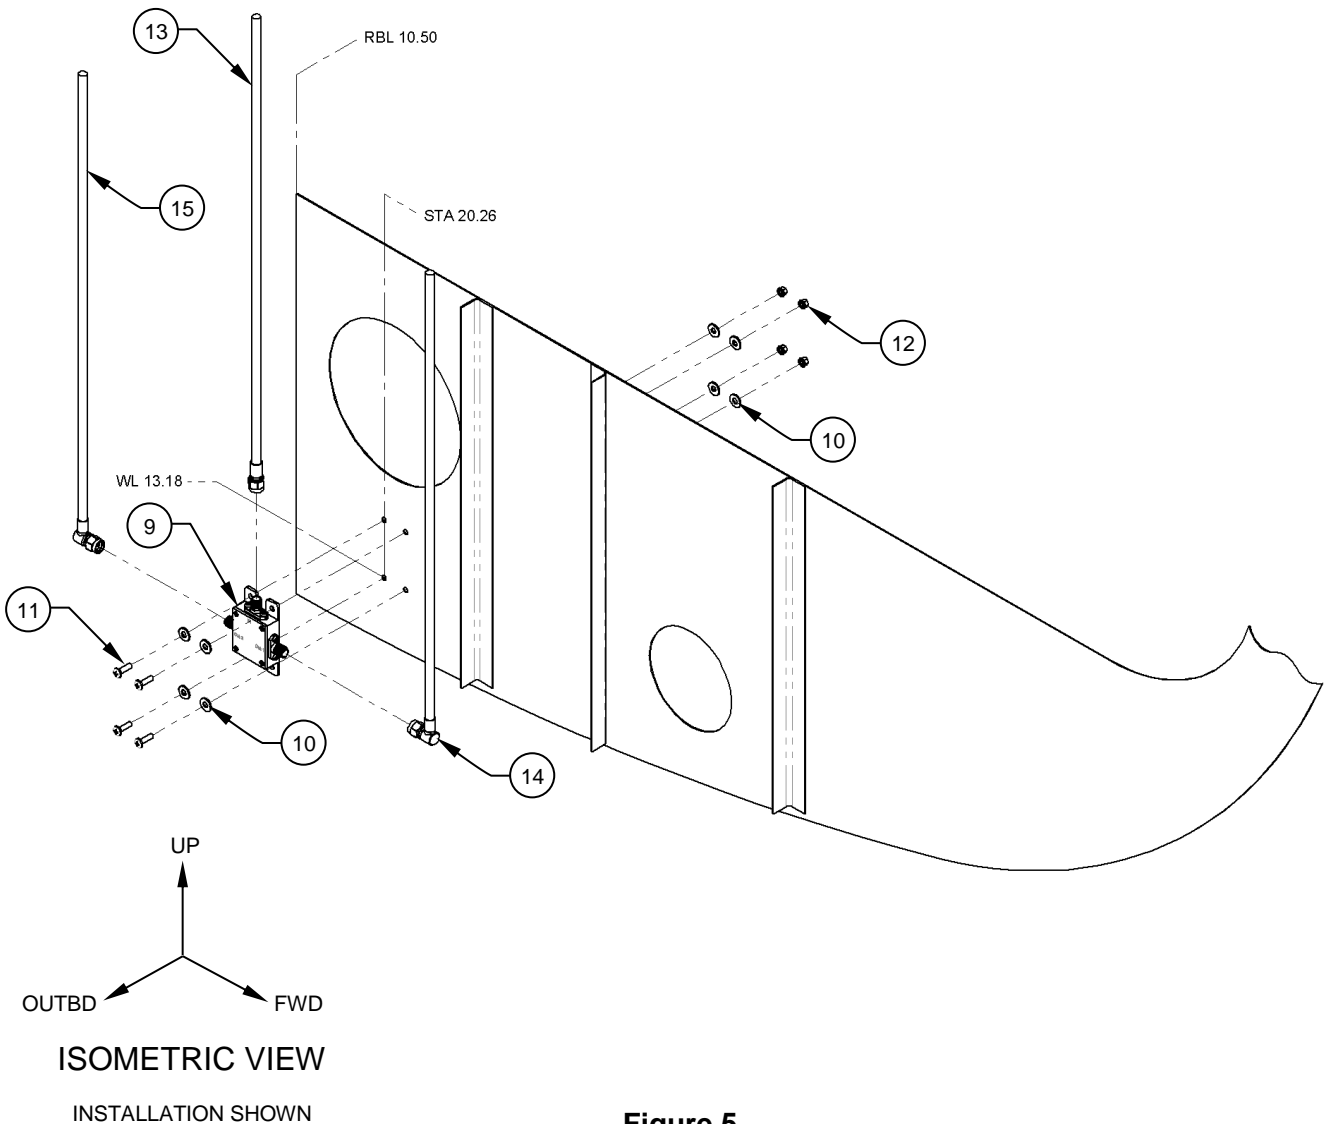
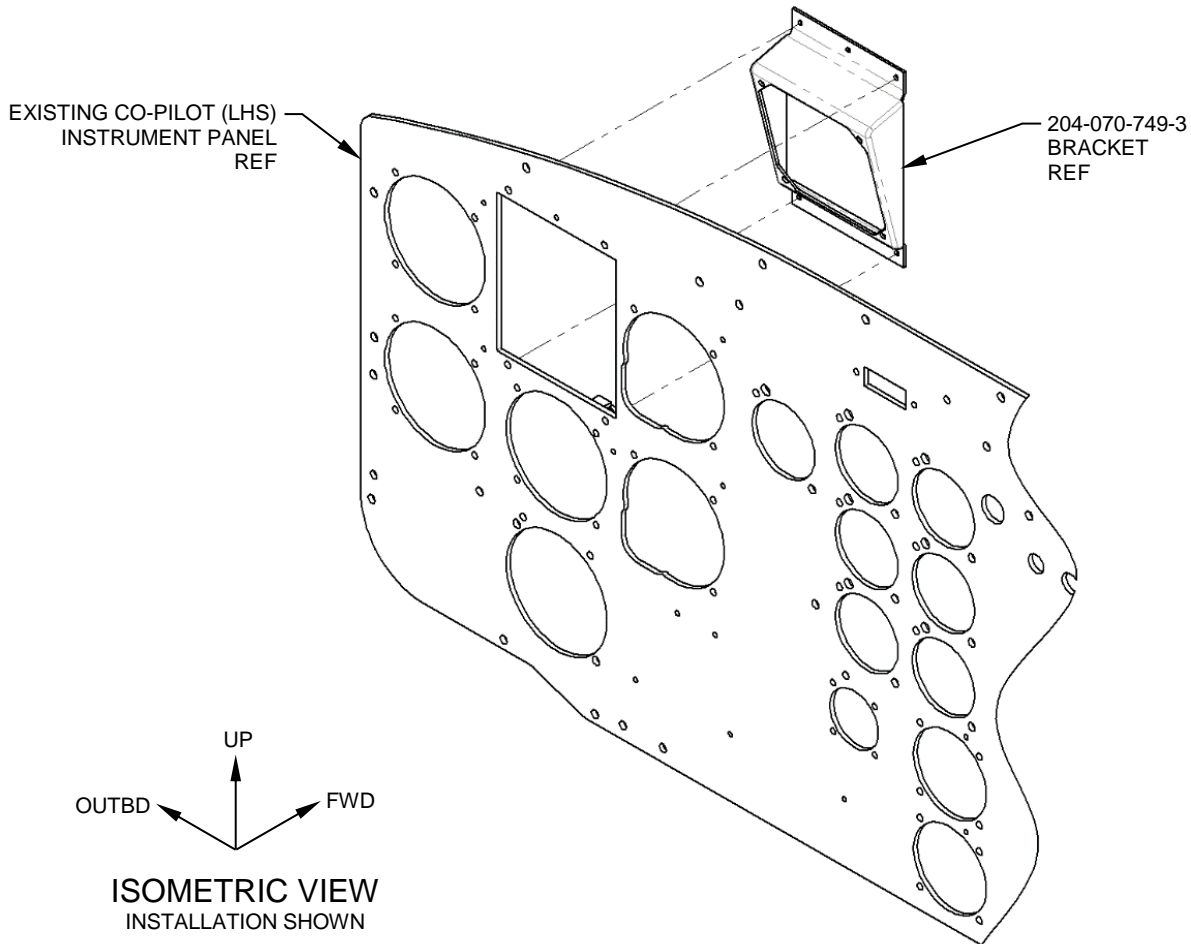
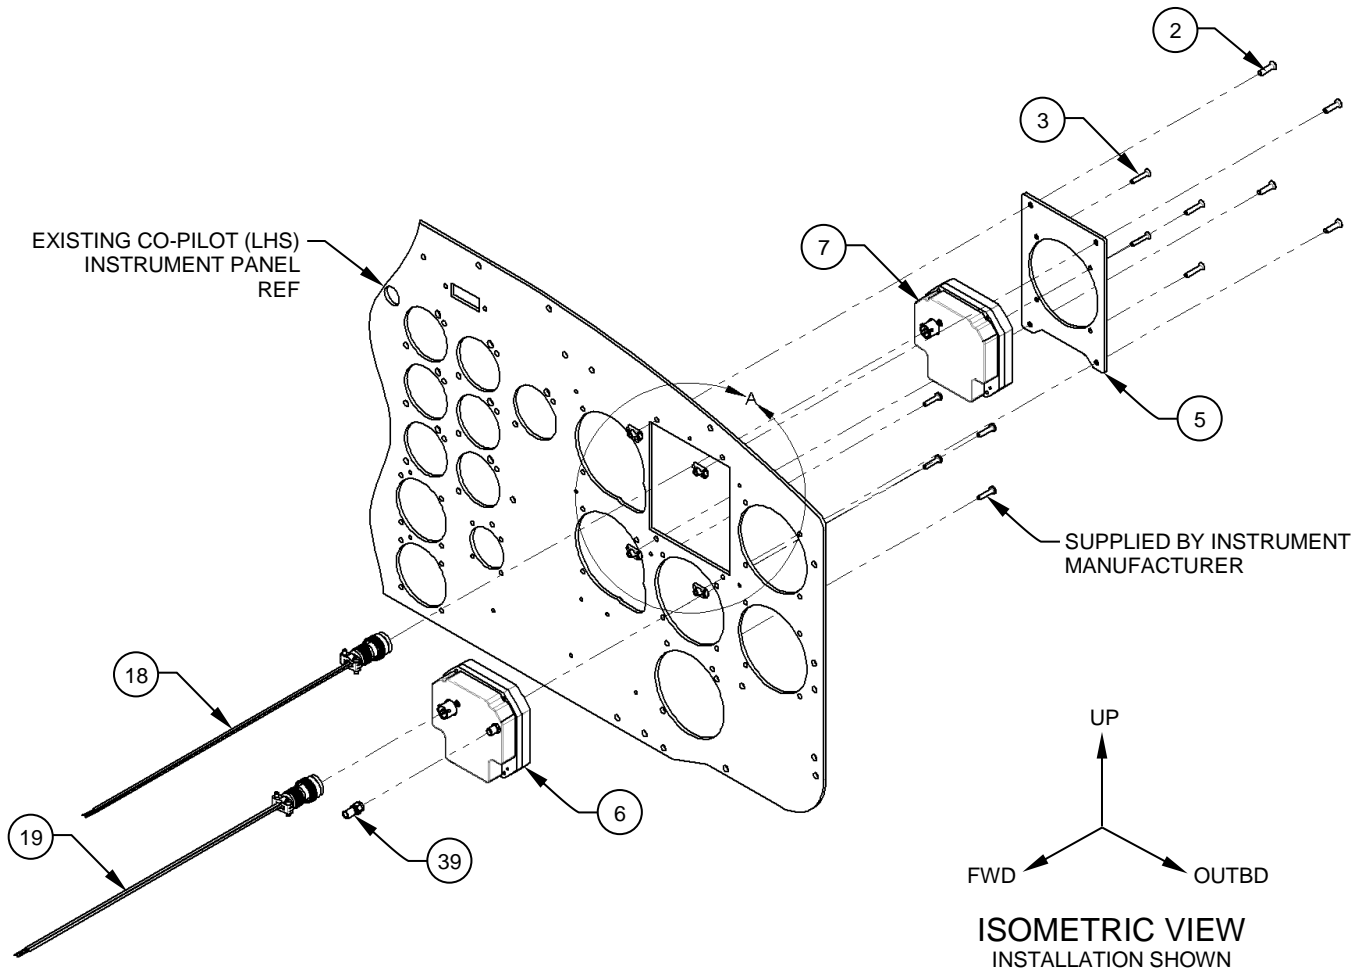
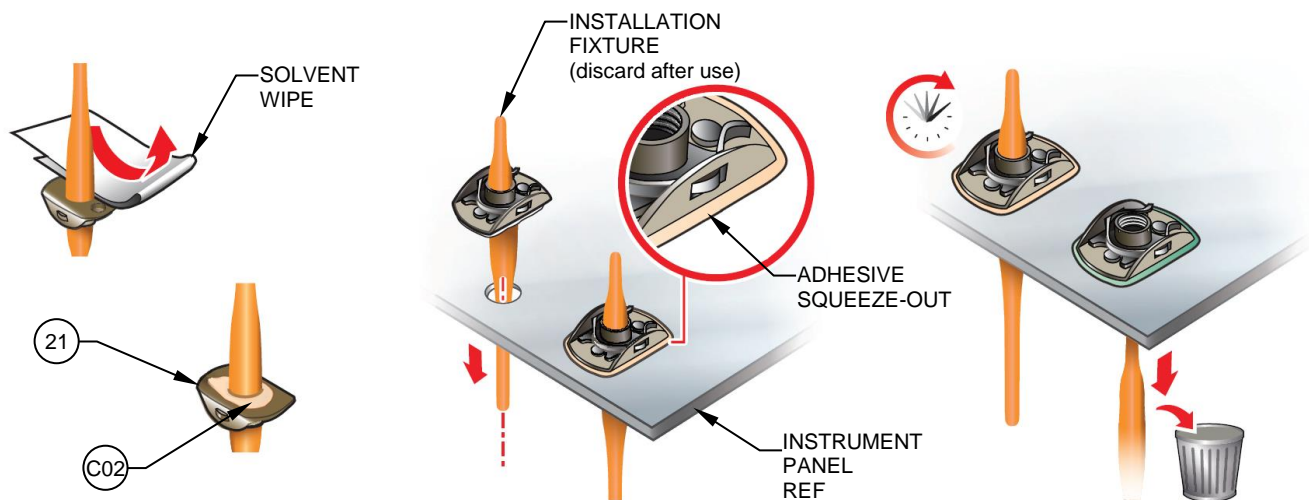

Figure 5
Figure 6
Figure 7
Figure A-1
- Install the Splitter, GPS (Item 9) with the supplied fasteners as shown. Reference Figure 5. The position shown is the preferred location however, deviation is permitted to accommodate individual aircraft configurations. Recalculate weight and balance accordingly.
10. If present, remove the 204-070-749-3 bracket and drill out the four holes in the instrument panel (shown) to $\text{Ø}.209''$ (#4). Coat the insides of the holes with primer and install the Click Bond® two-lug nut plates (Item 20) oriented as shown. Reference Figures 6, 7, 8 & Appendix A.
11. Install the Attitude Indicators into the Adaptor, Detail(s) (Items 1 & 5) with the associated hardware as shown. Reference figures 6, 7 & 8. If the aircraft is not equipped with a 204-070-749-3 bracket, then install the co-pilot Attitude Indicator (Item 7) directly into the existing standard 3-inch hole in the instrument panel. Reference Figures 7 & 8 & 9.
- Attach the Adaptor, Detail (Item 5) as shown to the co-pilot (LHS) instrument panel in the location that previously housed the old attitude indicator using the provided fasteners (Item 2). Reference Figure 7. Install the Heading Indicator (Item 6) in the LHS of the instrument panel in the existing hole that previously housed the old heading indicator. Reference Figure 7.
16. Install the Coax Cable, Assy (Item 14) by fastening the Coax Cable, Assy to the back of the pilot (RHS) Heading Indicator (Item 6) and route the cable as shown. Reference Figures 7, 9, 10 & 11 and Appendix B. Cut the Coax Cable, Assy to length and terminate with the SMA connector (Item 39). Fasten the newly terminated end of the Coax Cable, Assy to the “OUT 1” port of the Splitter (Item 9) Reference Figure 5.
17. Install the Coax Cable, Assy (Item 15) by fastening the Coax Cable, Assy to the back of the co-pilot (LHS) Heading Indicator (Item 6) and route the cable as shown. Reference Figures 7, 9, 10 & 11 and Appendix B. Cut the Coax Cable, Assy to length and terminate with the SMA connector (Item 39). Fasten the newly terminated end of the Coax Cable, Assy to the “OUT 2” port of the Splitter (Item 9) Reference Figure 5.
21. Install the Wiring Harness, Assy (Item 19) by fastening the connector to the back of the co-pilot Heading Indicator (Item 6) and route the wires as shown. Reference Figures 7, 10 & 11. Cut the un-terminated end of the wires to length and terminate with the provided ring terminals (Items 36 & 37) as per the wiring diagram. Reference Appendix B. Connect the newly terminated end to the Circuit Breakers (Items 34 & 35) as per the wiring diagram and connect ground wires to existing ground stud or ground block if available. If new ground studs or ground blocks are required, install IAW BHT-ELECT-SPM, Chapter 8. Reference Appendix B.
23. Install the Wiring Harness, Assy (Item 18) by fastening the connector to the back of the co-pilot Attitude Indicator (Item 7) and route the wires as shown. Reference Figures 7, 10 & 11. Cut the un-terminated end of the wires to length and terminate with the provided ring terminals (Items 36 & 37) as per the wiring diagram and connect ground wires to existing ground stud or ground block if available. If new ground studs or ground blocks are required, install IAW BHT-ELECT-SPM, Chapter 8. Reference Appendix B. Connect the newly terminated end to the Circuit Breakers (Items 34 & 35) as per the wiring diagram. Reference Appendix B.
- c. Solvent wipe the mounting surface again to remove all contaminants generated by sanding. Always use a new clean cloth for each wipe and wipe from the center out using a single rolling motion. Never wipe with the same side of the cloth more than once. Keep wiping the surface with clean cloths until no residue is present on the cloth after wiping. Allow the solvent time to flash-off prior to bonding. Reference Figure A-1.
3. Solvent wipe the base of the Click Bond® two-lug nut plates (Item 21) in one rolling motion. Allow the solvent to flash-off. Reference Figure A-1.
5. Insert the installation fixture into the instrument panel fastener hole in the proper orientation. Reference Figure 7 in the Installation Instructions. Tug gently on the installation fixture until nut-plate is seated securely against the instrument panel surface and adhesive squeeze-out is visible around the entire periphery of the nut-plate. Reference Figure A-1. Do not wipe away squeeze-out.
7. Once adhesive is cured, remove the installation fixture and discard. Reference Figure A-1.